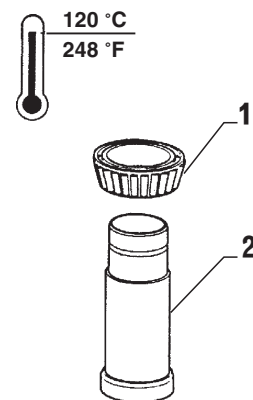

FIG. 3-1
Heat inner races of tapered roller bearings (item 1 and 2, Fig. 3-1) to approx. 120° (248°F) and push them onto output shaft up against shaft collar.